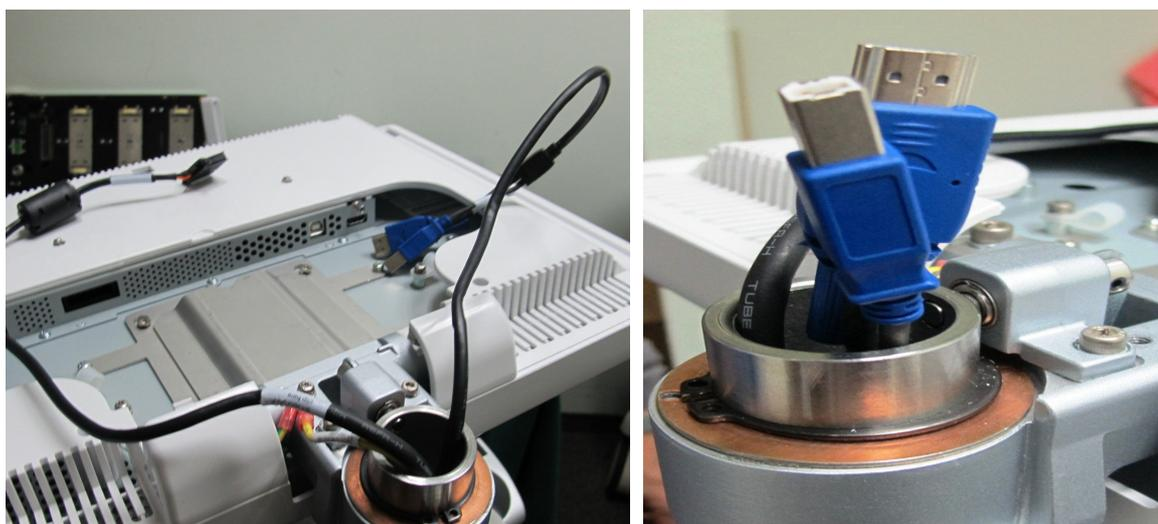

Figure 8-103 Monitor Cables Threaded Through Arm Aperture
- 6.) Thread the blue "double cable lead" to the BIF through the upper articulated arm joint as shown in Figure 8-103 below.